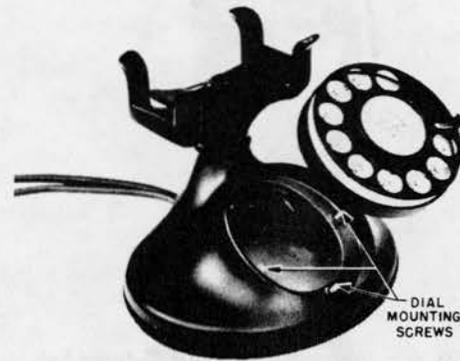

Fig. 11 — Assembly of Dial on D-type Handset Mounting
6.04 The D-type handset mounting may be equipped with a 4-, 5-, or 6-type dial. The dust cover must be removed from the 6-type dial when used with the D-type handset mounting (see Fig. 11).